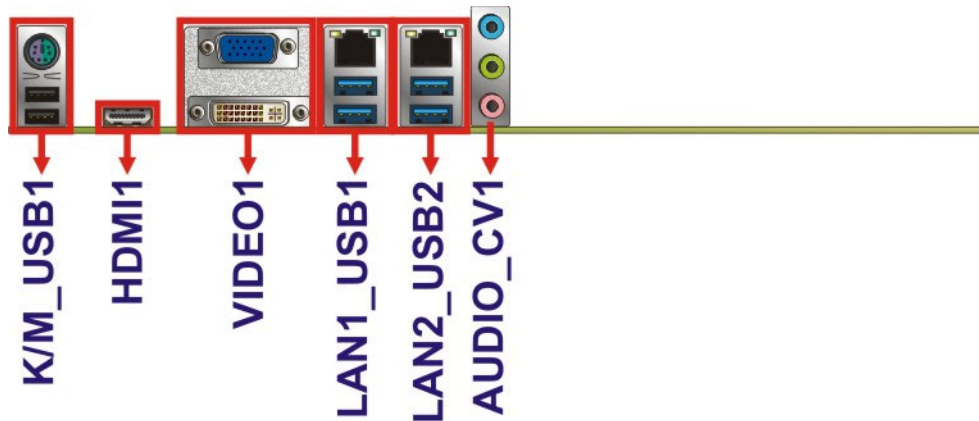

Figure 3-34: External Peripheral Interface Connector
CN Location:	See Figure 3-34
- CN Location:** See **Figure 3-34**